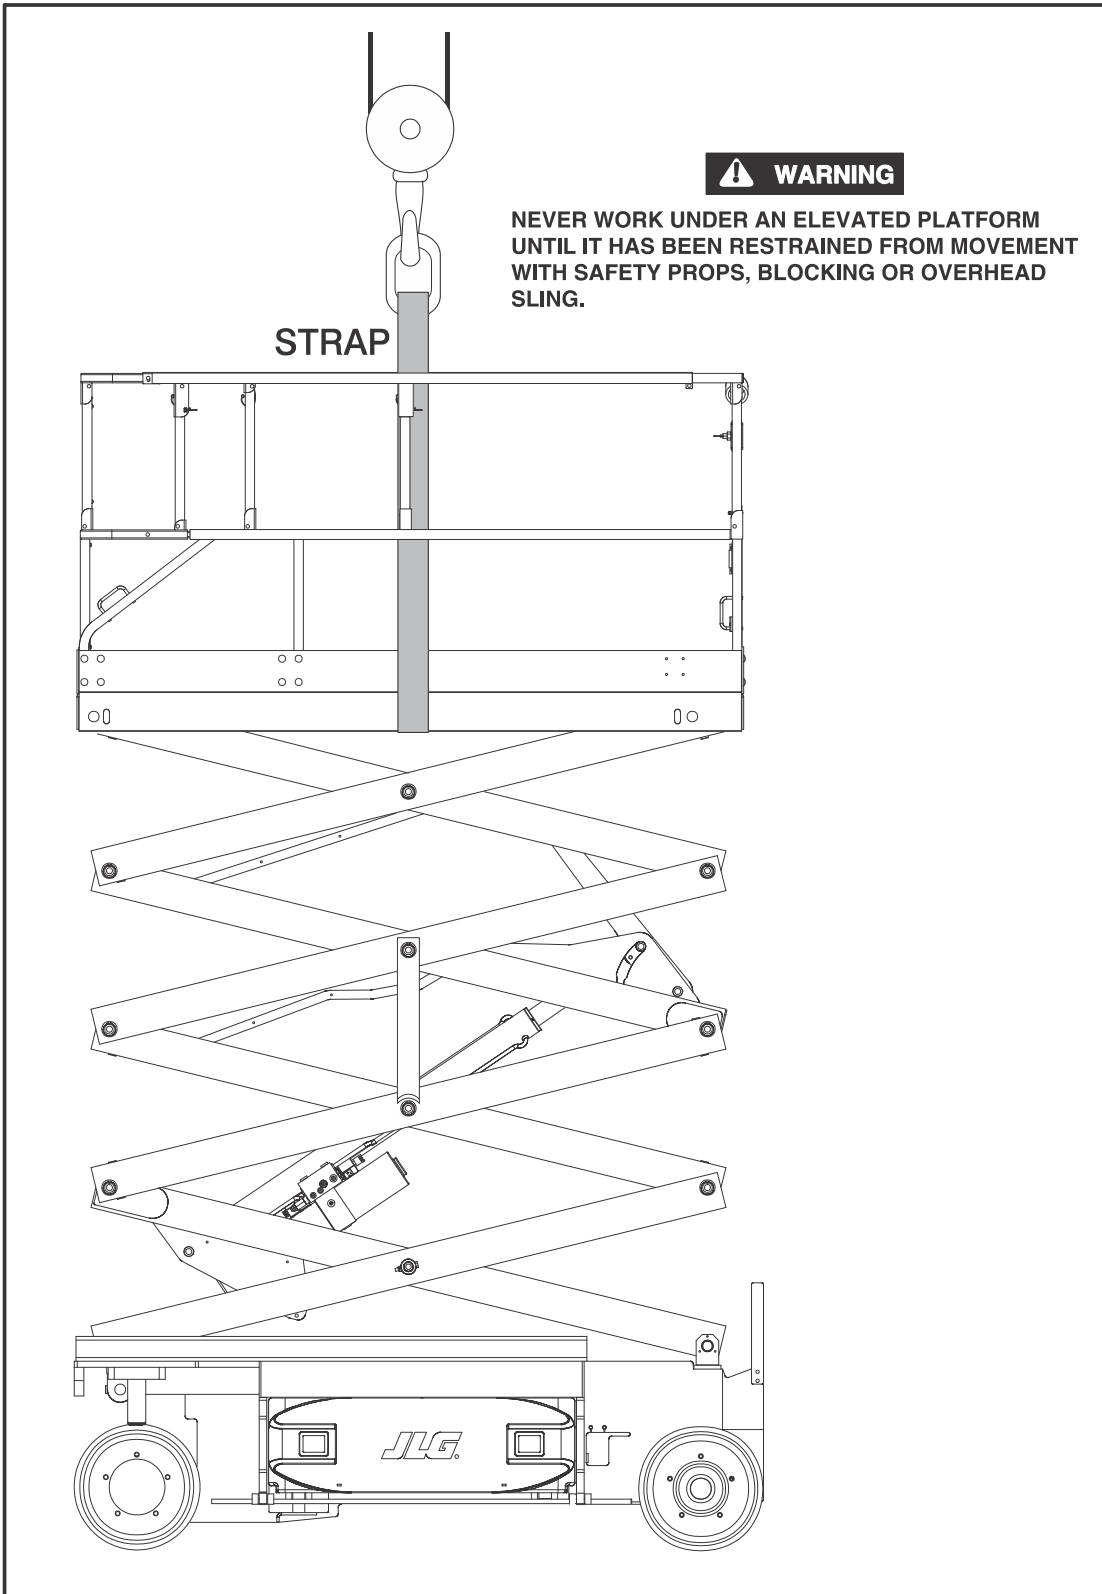

Figure 3-47. Arms and Platform Positioning and Support
The arm stack can be supported by using an overhead crane,(See Figure 3-47.). If an overhead crane is not available the stack may also be lifted by using a fork-truck using the following instructions:
1. Support the platform using an overhead crane with straps capable of lifting at least 250 lbs (114 kg) (See Figure 3-47.). Refer to Section 3.13, Scissor Arms and Platform Positioning and Support.